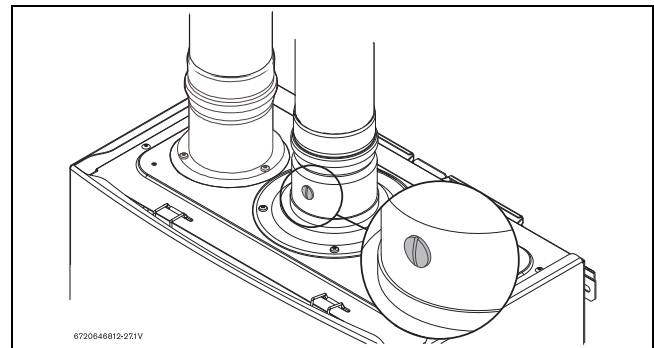

Fig. 62 Measuring port
- ▶ Remove brass flat head screw on the exhaust collar as seen in Fig. 62.